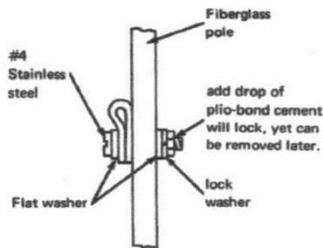

FIGURE 1
- Put the pole arms and spider (or end plate) on a convenient flat surface. After assembling the spider or plate and fiber poles, drill three of the four holes based on the dimensions in Table A. Mount the hardware as shown in Fig. 1 at the three points on each pole for a total of 18. The fourth corner can be taped down during measurements.
**not** doing the “fine tuning”, pull the wires snug (not too tight), solder, and permanently mount the last cable clamp as in Fig. 1.
11. Pull the loops snug (not too tight), determine the location of and drill the fourth hole for each loop and mount the final cable clamp as shown in Fig. 1.